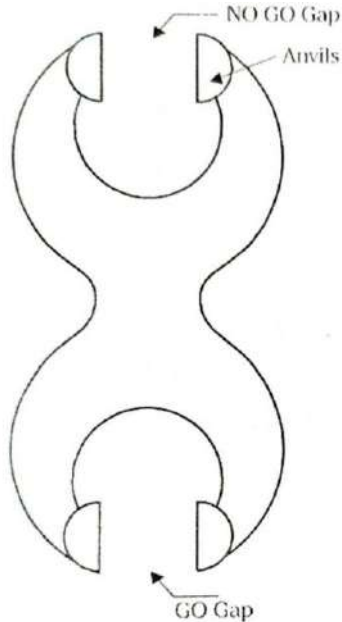

Fig 1 Double Ended Snap Gauge
- A snap gauge usually consists of a plate or frame with a parallel faced gap of the required dimension as shown in the Fig. 1.